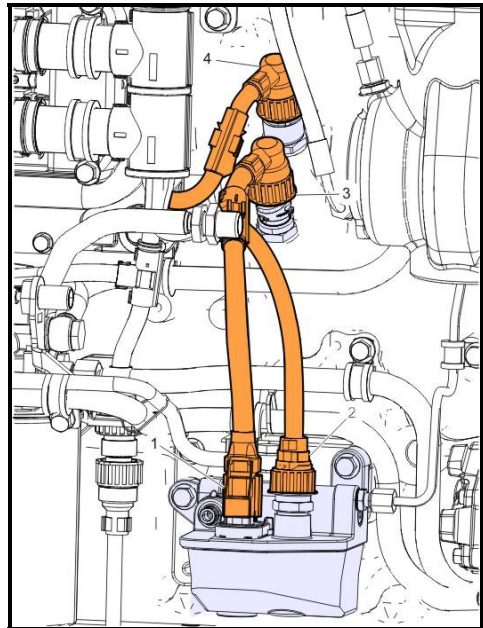

FIGURE 10
12. Disconnect the following cold side middle harness connections (fig.10). Remove P-clamps.